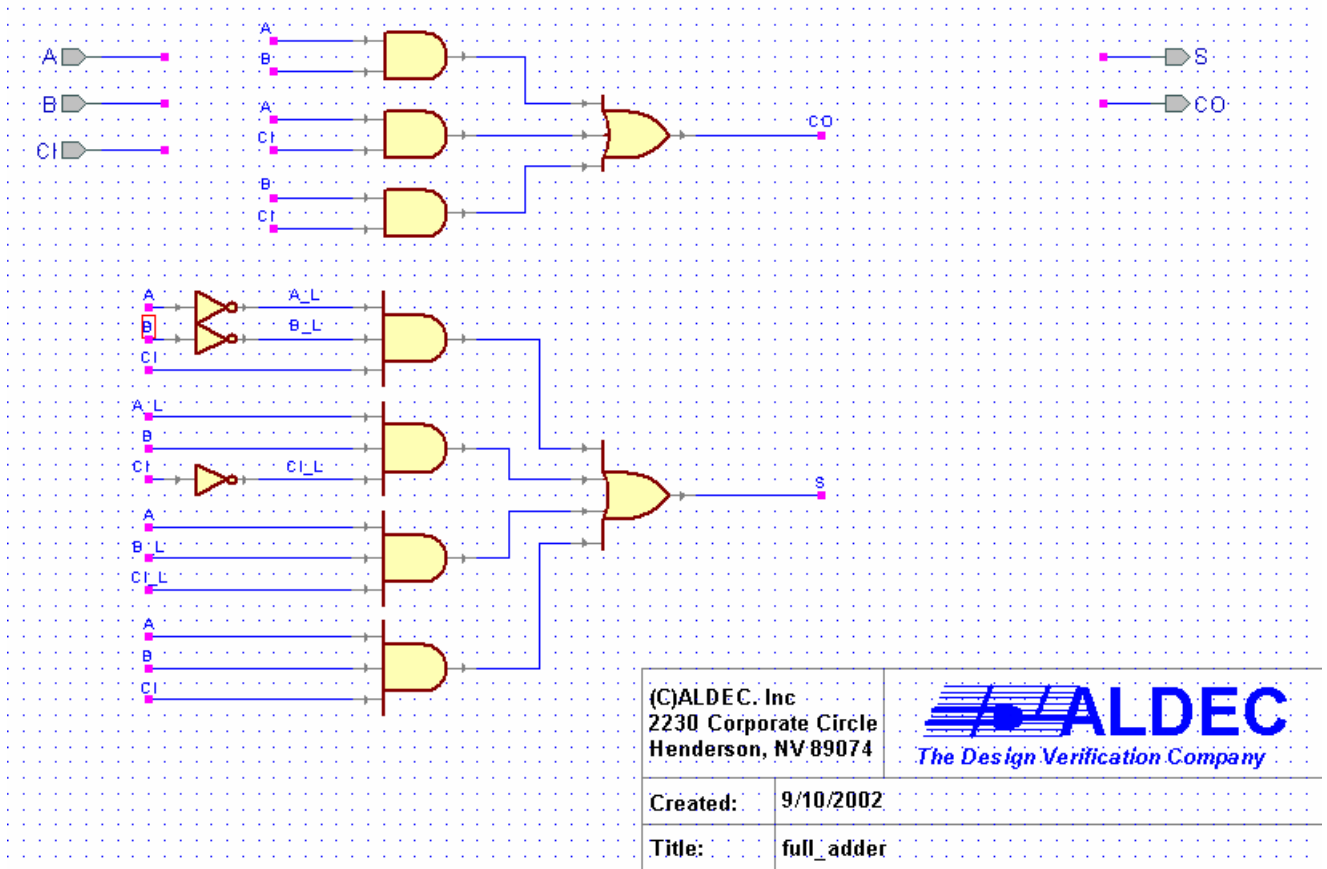
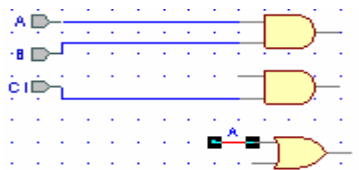

Figure 14
Figure 24
Figure 14 is the final version of the schematic you will be drawing. Your final design should look similar.
Connections to terminals can be made “by wire” or “by name”. By wire connections connect terminals by a wire. If a wire and a terminal have the same name, they are connected by name. Lots of wires can be confusing and named connections are used to make easy to read schematics. Figure 24 is an example of both methods. Also, the final schematic version of the full adder presented earlier (Figure 14) shows how to create an easy to read schematic using connections by name.
* Complete your schematic so it looks like **Figure 14**.